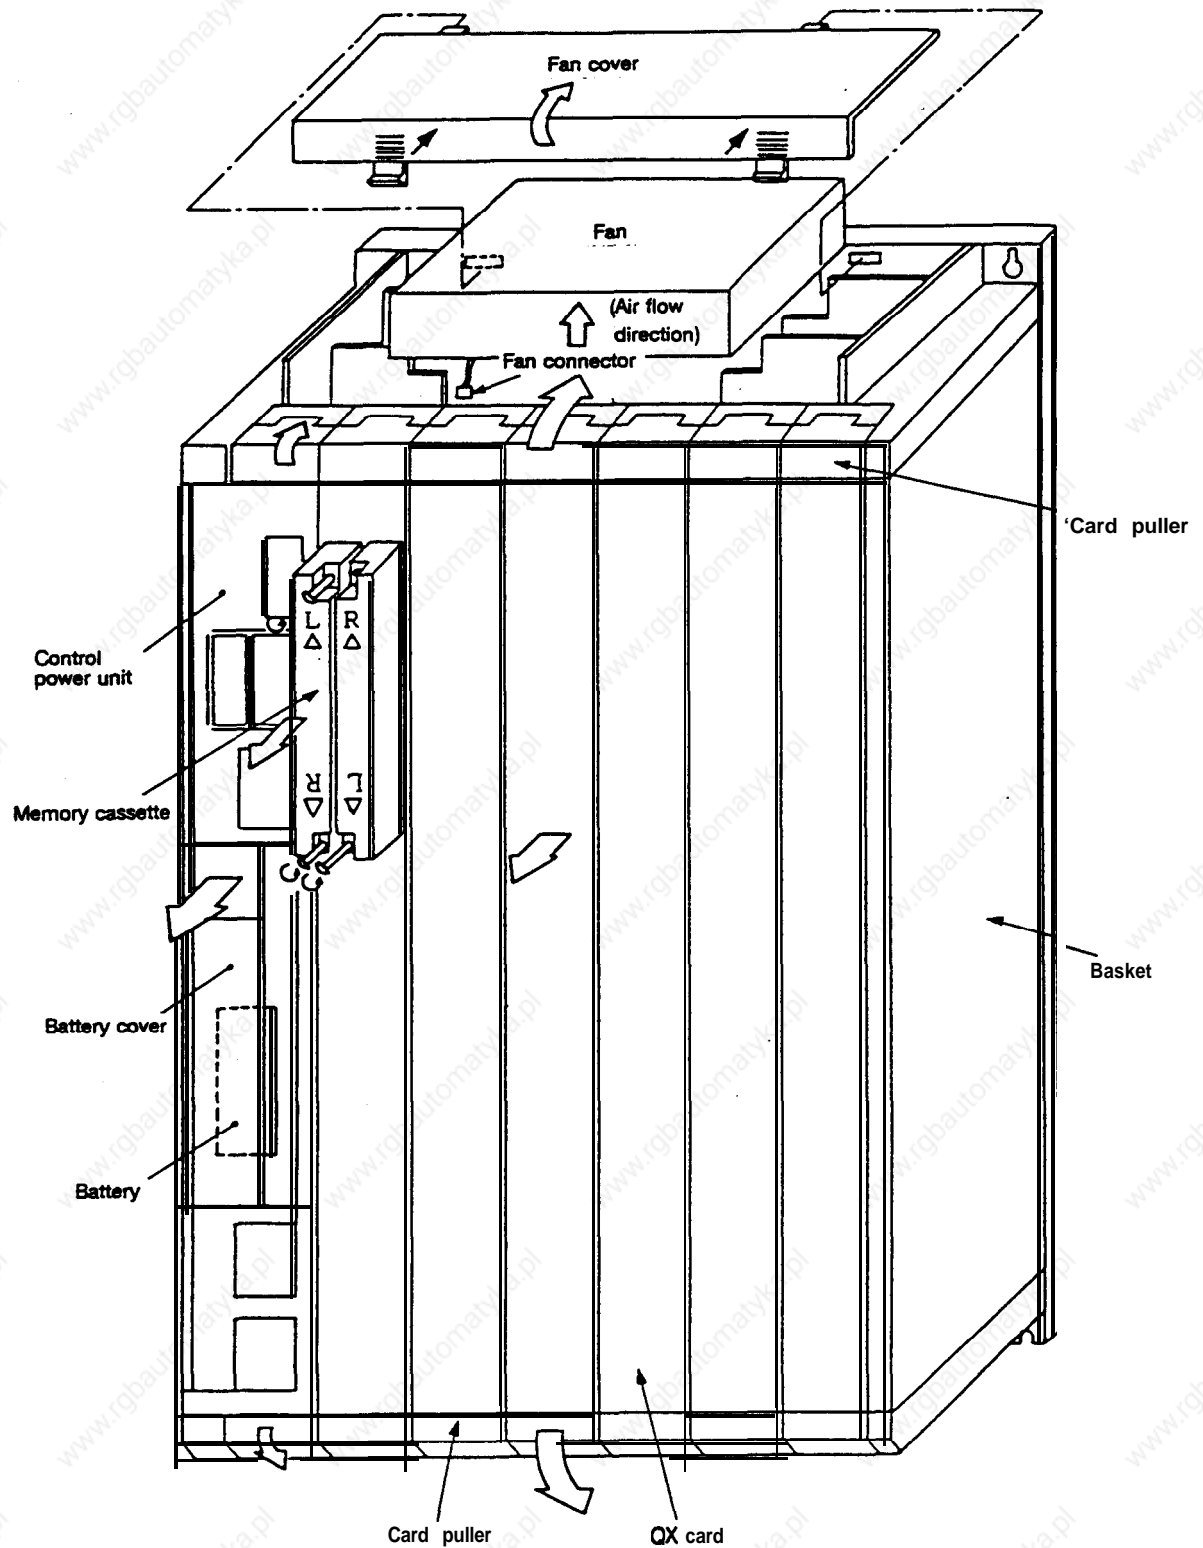

Fig. 3.6 Control unit replacement procedure drawing
The procedure for replacing the control unit is shown in Fig. 3.6.
② When the upper and lower card pullers are opened into the direction of the arrow shown in Fig. 3.6, the QX card will protrude slightly, and can be pulled out.
③ When mounting a new QX card, slide the card into the back along the guide groove on the basket. The card name is indicated on the basket, so make sure that the card is inserted into the correct slot.
④ Close the card lock.